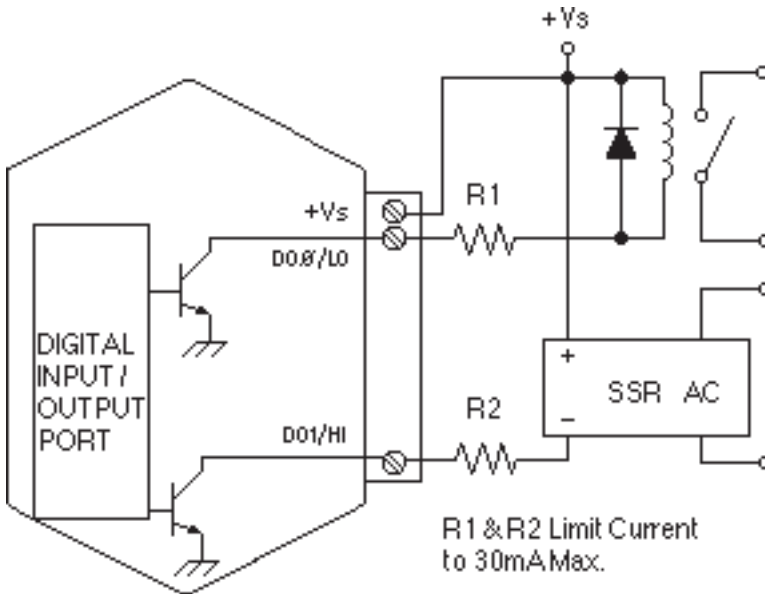

Figure 6.3 Digital Inputs
Digital inputs are used to sense switch closures and the state of digital signals. The inputs are protected to voltages up to  $\pm 30\text{V}$  and are normally pulled up to the logic “1” condition (see Figure 6.3). Digital inputs can be read by the Digital Input (DI) command. Voltage inputs less than  $1\text{ V}$  are read back as ‘0’. Signals greater than  $3.5\text{ V}$  are read as ‘1’. No other commands have any affect on the inputs.